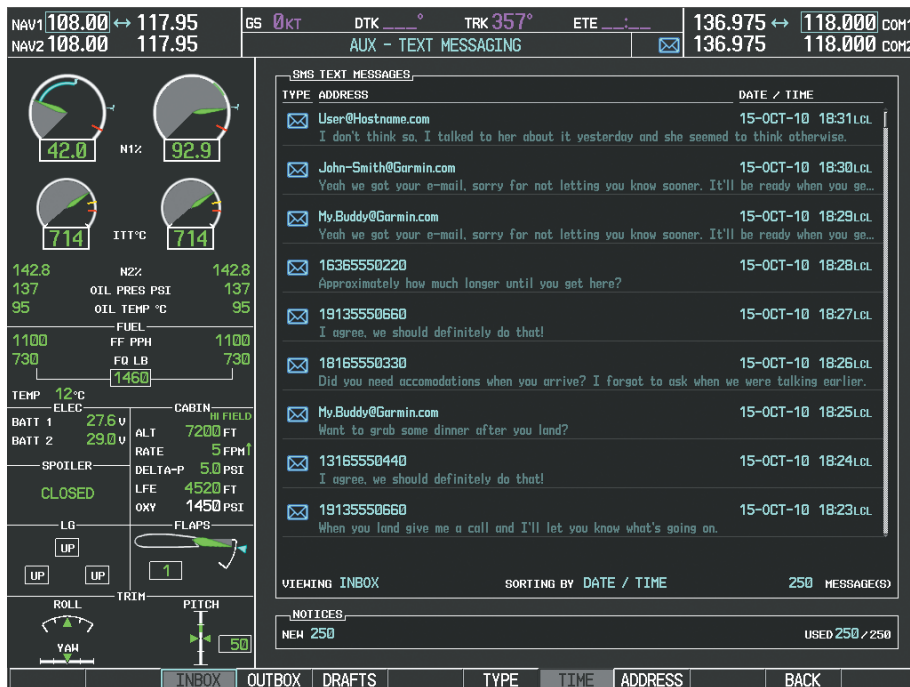

Figure 8-104 Text Message Inbox
While viewing the AUX-TEXT MESSAGING Page, select the **ARRANGE** Softkey, then select the **INBOX** Softkey (Figure 8-104).
While viewing the AUX-TEXT MESSAGING Page, select the **ARRANGE** Softkey, then select the **TIME** Softkey (Figure 8-104).
- 3) Press the **ENT** Key. The sorting selection is indicated at the bottom center of the list window (Figure 8-104).